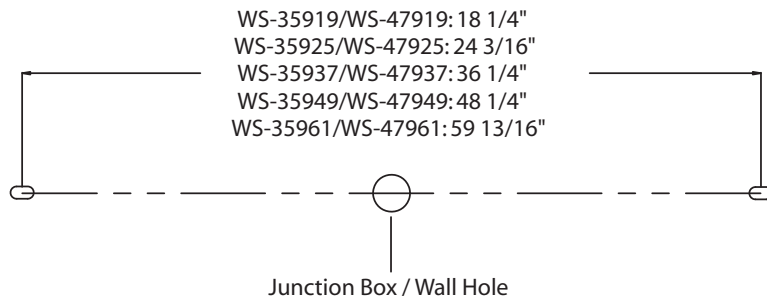

FIG. 4 Wiring
2. Remove the mounting screw (B) and the end cap from the fixture.
4. Connect the fixture's wires to supply wires as shown (Fig. 4). Make sure that all wire connectors (A) are secure. If your outlet box has a green or bare copper ground wire, connect the fixture's ground wire to it. Otherwise, tuck the fixture's ground wire directly to the fixture. After wires are connected, tuck them carefully inside the wall hole.
5. Slide acrylic diffuser and PC strip slightly out of the way to review the plastic anchor location on the back, then fasten the fixture to the wall using wood screw (E).
6. Secure the end cap to the fixture using mounting screw (B) to seal the acrylic diffuser.
3. Remove the mounting screw (B) and the end cap from the fixture.
4. Connect the fixture's wires to house wires as shown (Fig. 4). Make sure that all wire connectors (A) are secure. If your outlet box has a green or bare copper ground wire, connect the fixture's ground wire to it. Otherwise, tuck the fixture's ground wire directly to the fixture. After wires are connected, tuck them carefully inside the junction box.
5. Slide acrylic diffuser and PC strip slightly out of the way to review the plastic anchor location on the back, then fasten the fixture to the wall using wood screw (E), make sure to align the decorative plate to adequately cover the junction box wall opening.